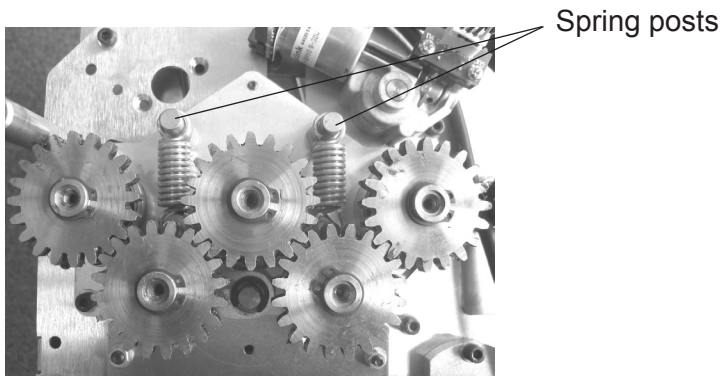

Fig. 22
2. Slacken the screws behind the adjustable spring posts (see Fig. 22 below) and turn the posts to reduce spring tension. Each post on each side must be turned by a similar amount. Ensure the screws are fully re-tightened.